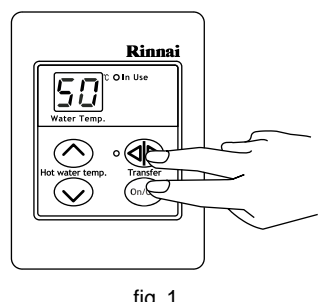

fig. 1
14. Adjust the high pressure Potentiometer (POT) on the Printed Circuit Board (PCB) as required to the pressure shown Table 2. (fig. 1)
STEP 1: For the controller in the KITCHEN only, press and hold the 'Transfer' and 'On/Off' buttons simultaneously (see fig. 1) until a 'beep' is heard (approximately 5 seconds).